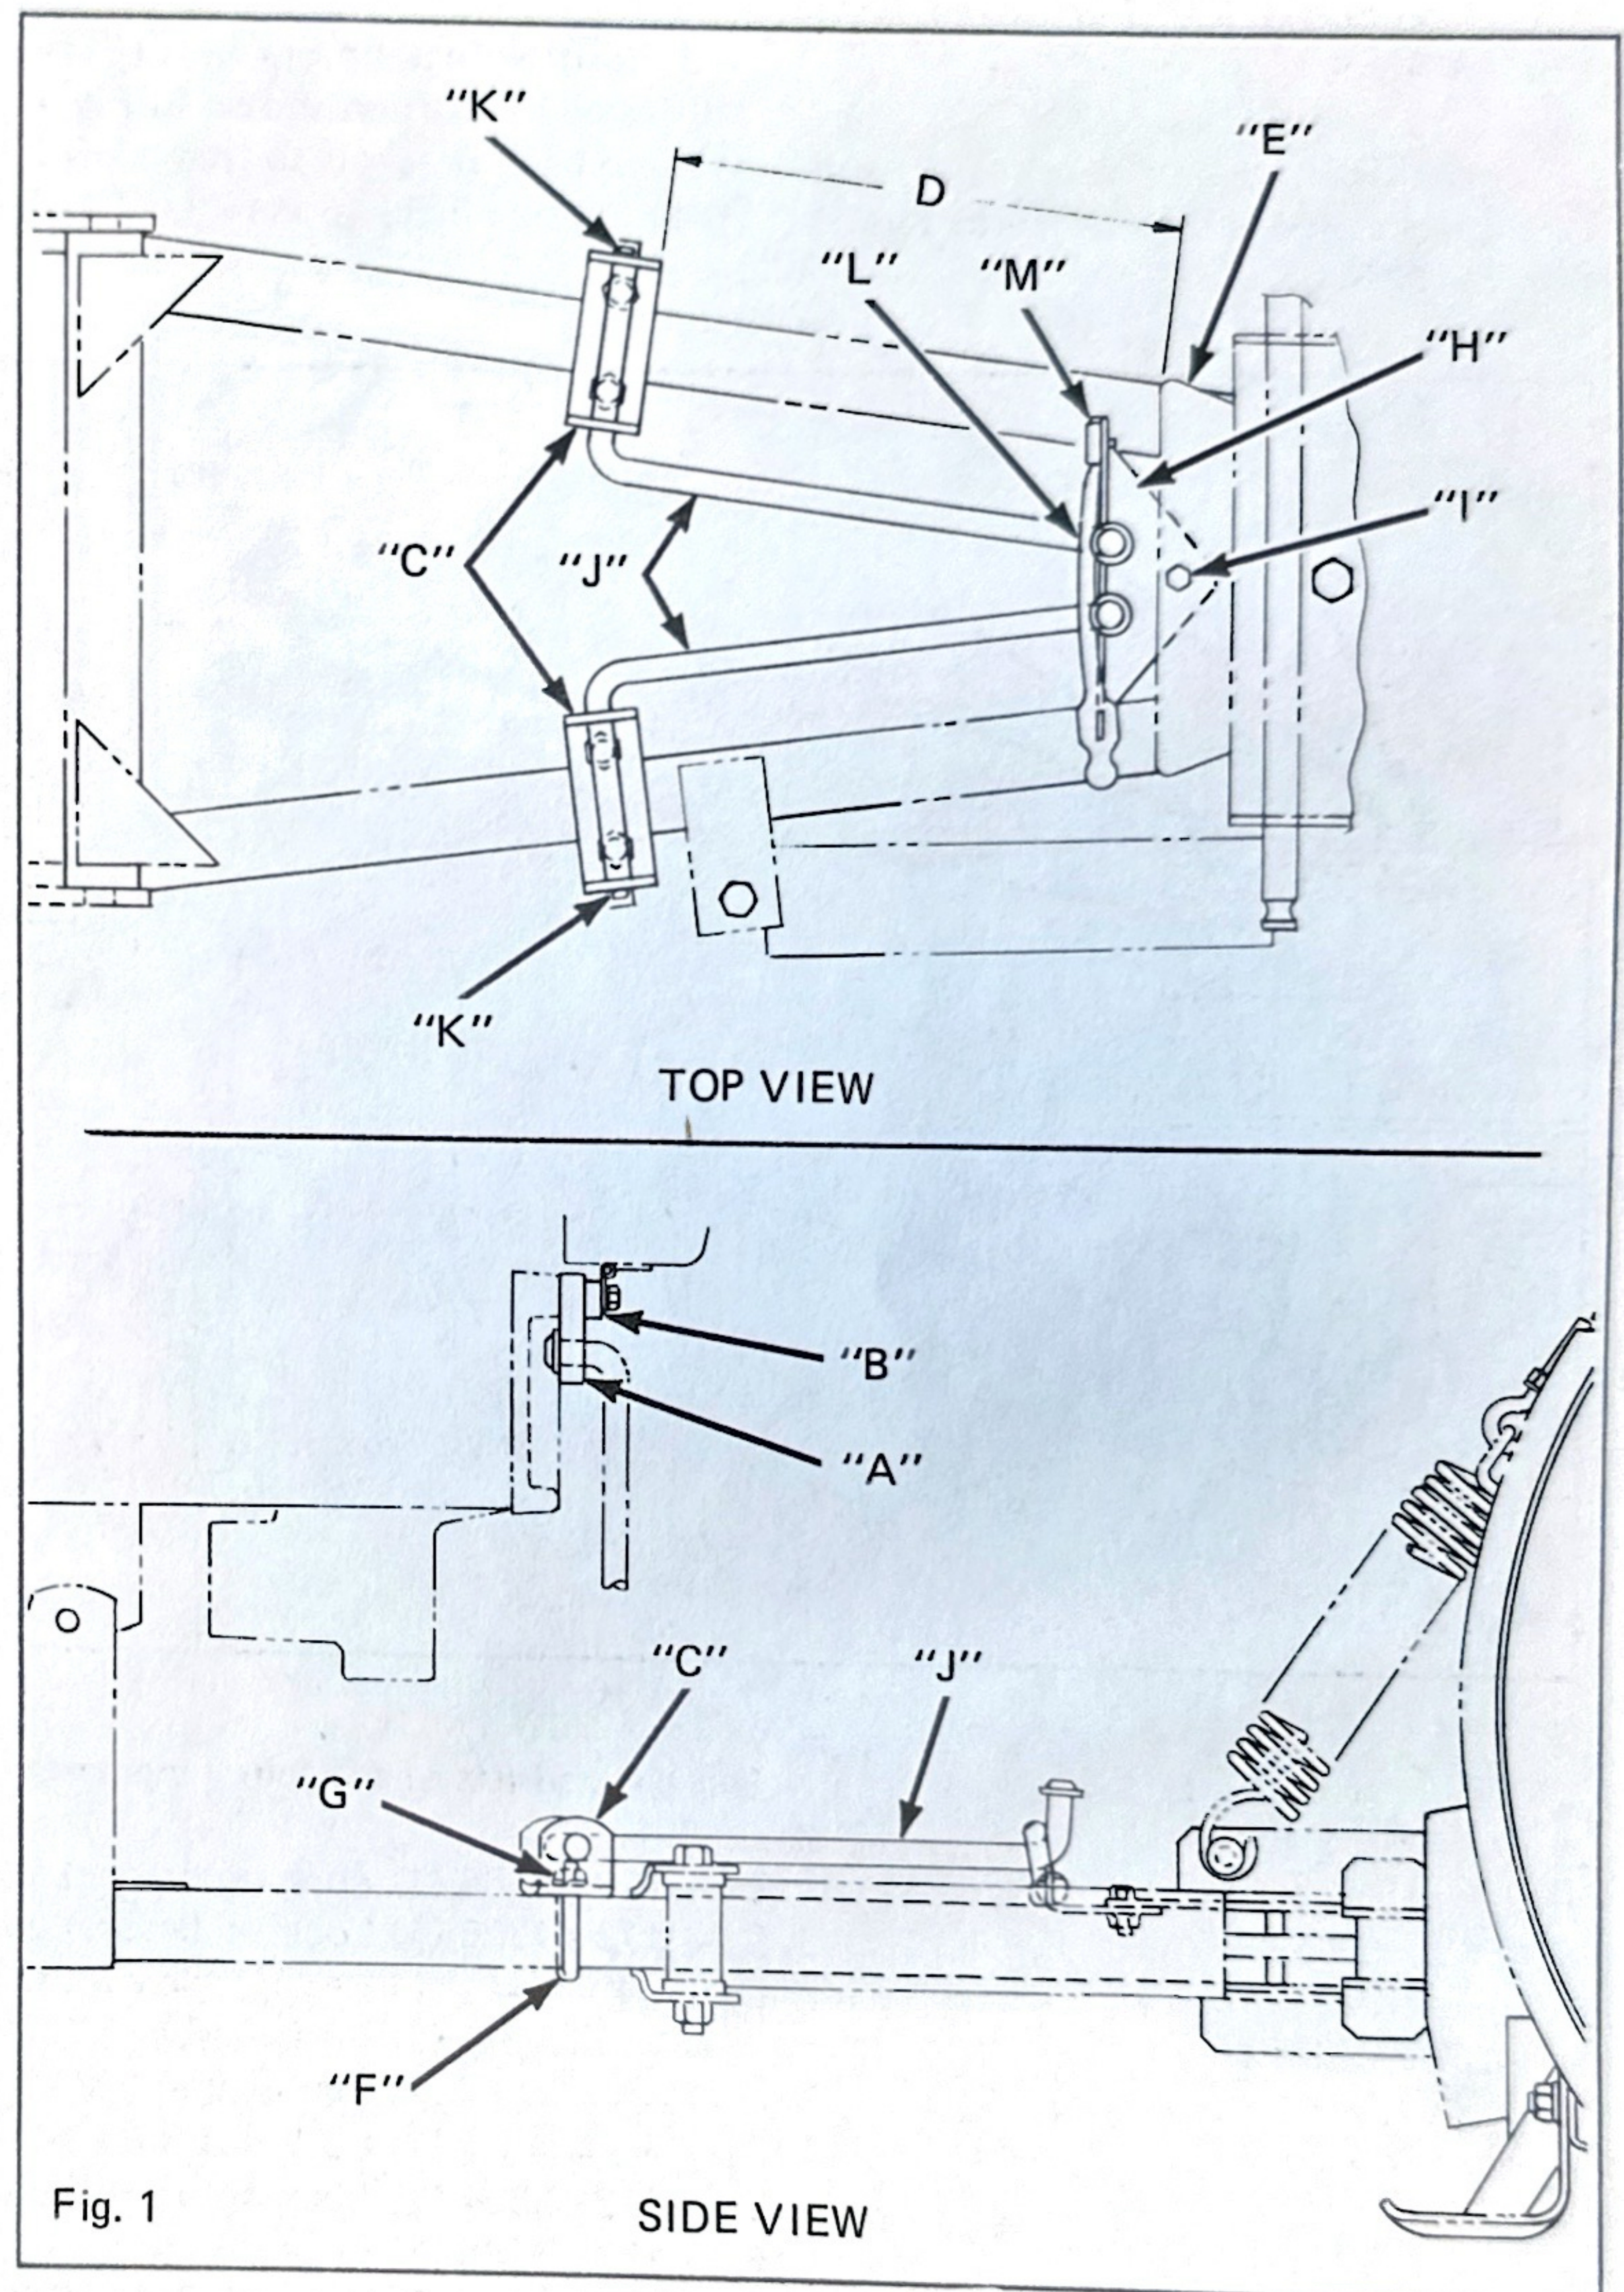

Fig. 1
2. Position lock-up plate (A) and spacers (B) as shown in Fig. 1 and secure with screws removed in step 1.
3. Position lock-up brackets (C) on front push arms to dimension (D), Fig. 1, approximately 10-½ in. (26.7cm) from front plate (E). Secure to push arms with U-bolt (F), hex lock nuts and lock washers (G).
4. Fasten hold down bracket (H) to push arm with hex head screw, washer, lockwasher and lock nut (I).
5. Install left and right hand lock-up rods (J) into bracket (C) as shown in Fig. 1 and secure with cotter pins (K).
6. To keep lock-up rods from bouncing around when using attachment secure rubber latch (L) with clip and pop rivet (M).
7. When not being used, lock up attachment by swinging rods (J) up and into holes in plate (A).